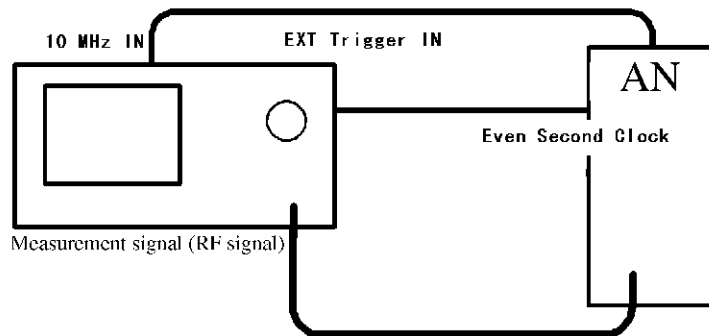

Figure 2-6 Connection for Frame Analysis Measurements of the Access Network Signals
1. Connect the equipment as shown in Figure 2-6.